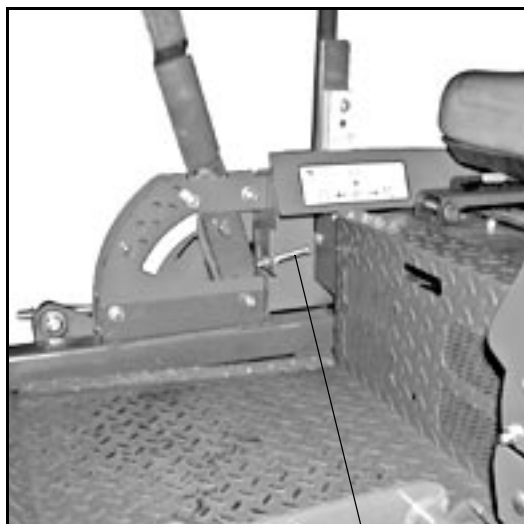

Figure. 1
3. Locate the Hour Meter/Tachometer/ Service Minder display on the right hand operator control panel. (see Fig.1 on page 8 of the manual) This display defaults to Tachometer mode when engine is running.